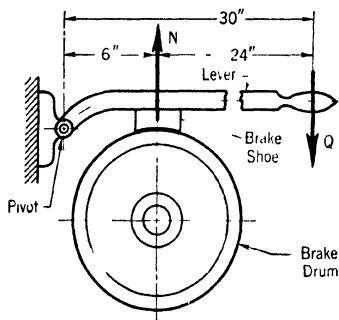

FIG. 381. FORCE ON A BRAKE SHOE, PROBLEM 1
1. A force $Q = 100$ lb. is applied to a 30-in. brake lever as shown in Fig. 381. What is the total force of the brake shoe on the drum? (This force is equal and opposite in direction to the force N of the drum on the shoe, as shown.) *Ans.* 500 lb.